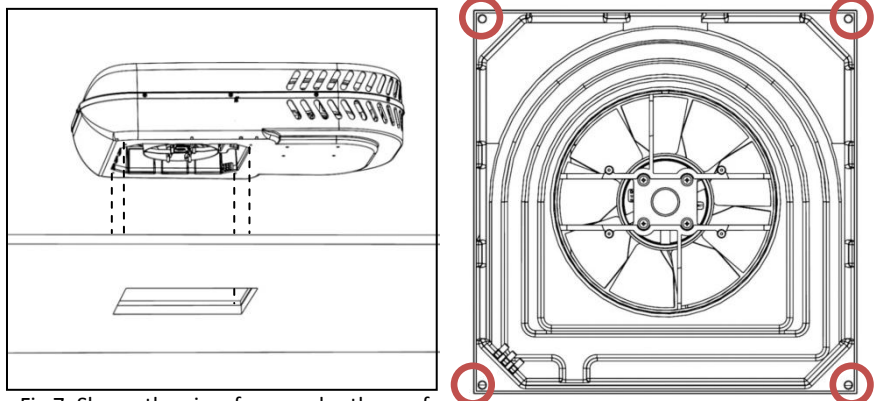

Fig 7: Shows the view from under the roof Position the SPARROW so the 4 mounting holes (circled) line up with the corners
- Four M8 mounting holes on the chassis underneath the air conditioner will line up with the corners of the square roof hole (Fig 7).